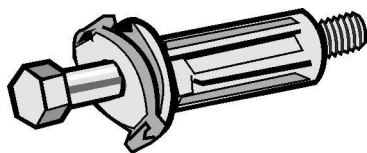

Figure 2
- ❑ Locate the four transportation bolt assemblies originally shipped with your washer (see **Figure 2**).